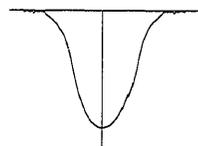

Fig. 16
(1) When the signal from the signal generator is weak, make adjustment until the waveform becomes maximum and symmetrical as shown in Fig. 16. Increase the output of the sweep generator, and adjust the waveform until the width of its part C becomes as flat as possible.